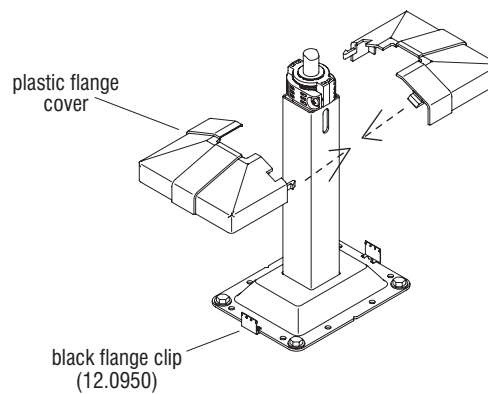

Figure 2
5. Jury Base flange covers are prepared at the factory to fit correctly around the rectangular base. Snap the flange covers together around the base and push down to the floor and engage the flange clips (Figure 2).